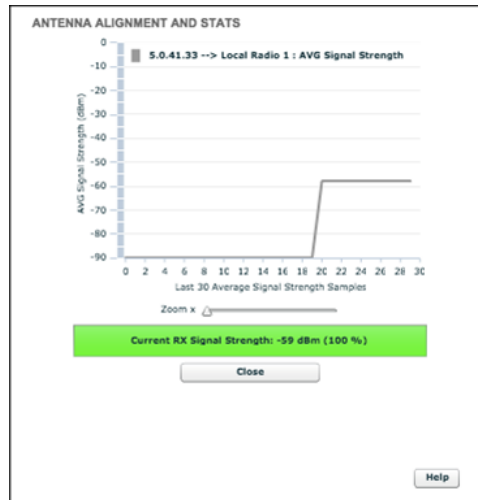

Figure 27. Antenna alignment and stats tool
- The **ANTENNA ALIGNMENT AND STATS** tool will be shown (Figure 27 (page 80)).